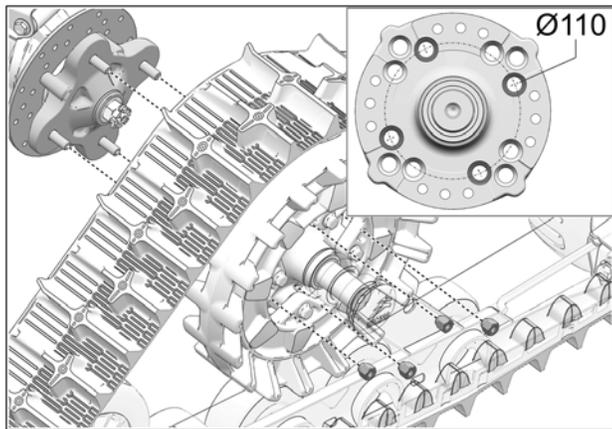

Fig. 10
- Secure undercarriage to rear hub using the vehicle's own lug nuts. Use bolt circle  $\text{Ø}110 \text{ mm}$ . See Fig. 10